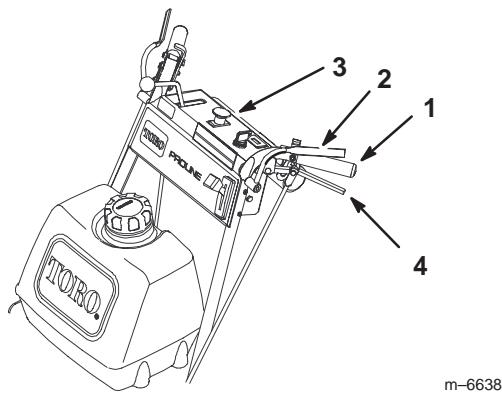

Figure 19
1. To engage the blade, press the Operator Presence Control (OPC) levers against handle grips (Fig. 19).
1. Release Operator Presence Control (OPC) levers to disengage blades (Fig. 19).